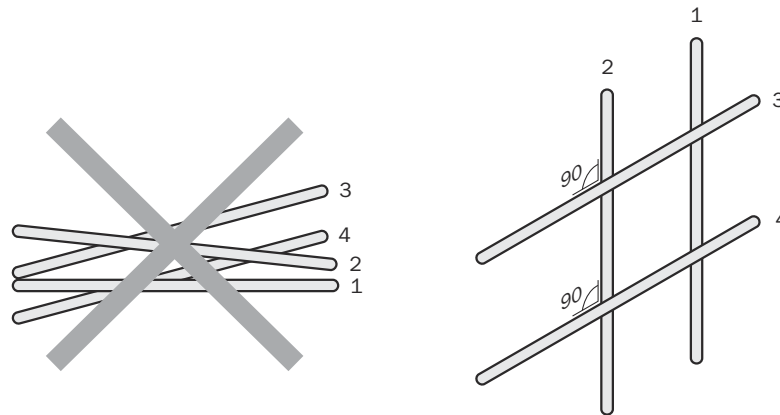

Figure 38: Cross cables at right angles
- ▶ Cables in groups 1, 2 and 3, 4 must be crossed at right angles (see figure 38).